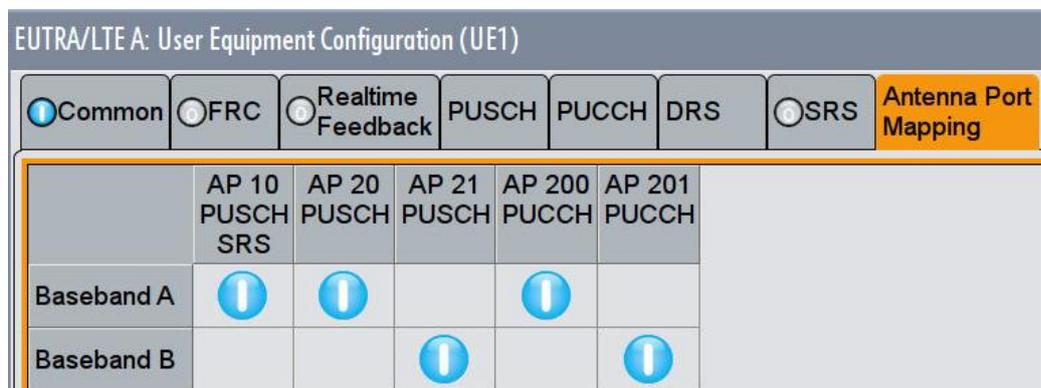

Fig. 3-165: The antenna port mapping. The PUCCH AP200 is generated by BB A, the AP201 by BB B
5. Check the antenna port mapping (Fig. 3-165).